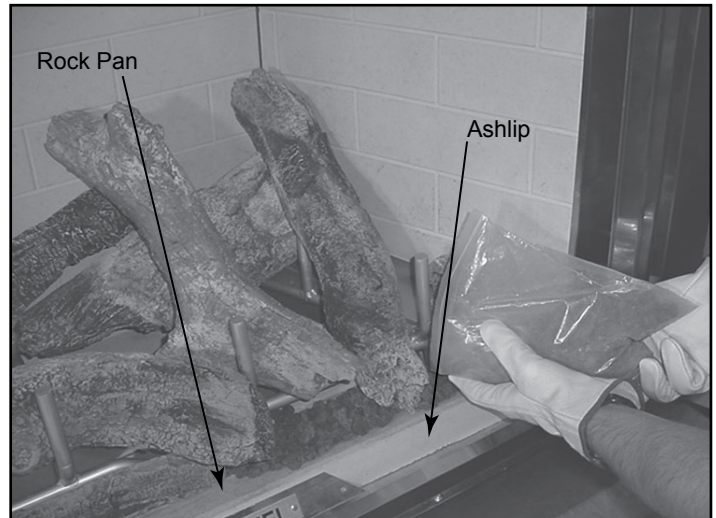

Figure 9.10 Placement of Lava Rocks
- After logs have been placed spread part of the lava rock (included) between the rock pan and ashlip (see Figure 9.10).